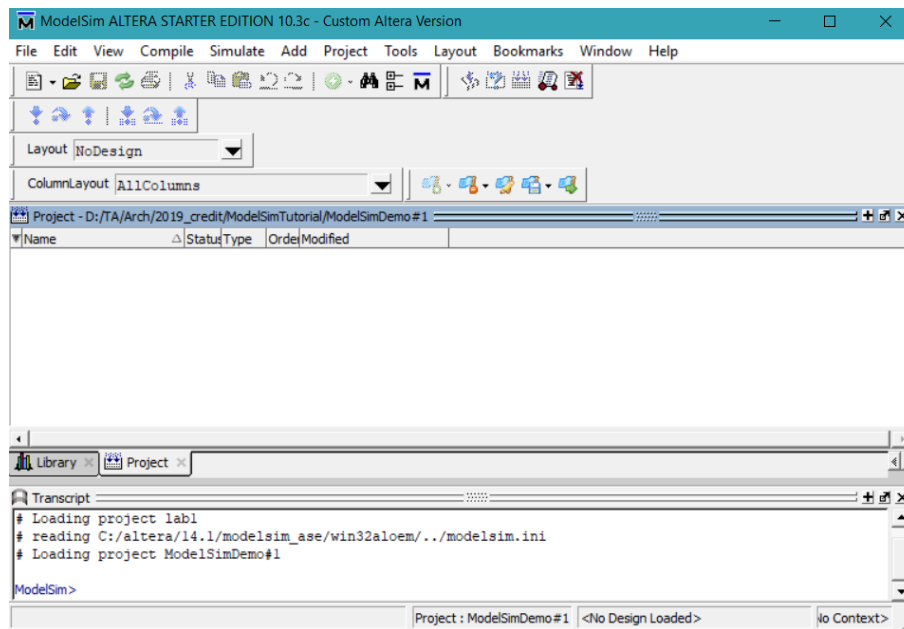

Figure 2: Create Project
4. Make Sure Your project Tab is opened. if not, open it from Menu, View → Project. Fig.2
1. In Project Tab Fig.2, right click and choose Add to project → New file. (or existing file if you already have one).
1. In Project Tab Fig.2, right click and choose Add to project → Existing file.
7. Double click on the file name in the project tab to open it Fig.2.